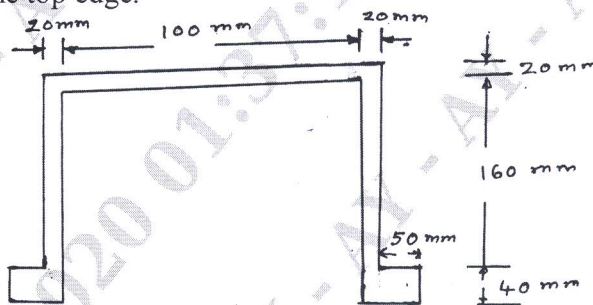

Fig.Q5(b)
- b. A cast iron beam section is shown in Fig.Q5(b). The tensile stress at the bottom edge is 20 N/mm^2 when it is subjected to a bending moment. Determine (i) the value of B.M. and (ii) value of stress at the top edge. (14 Marks)